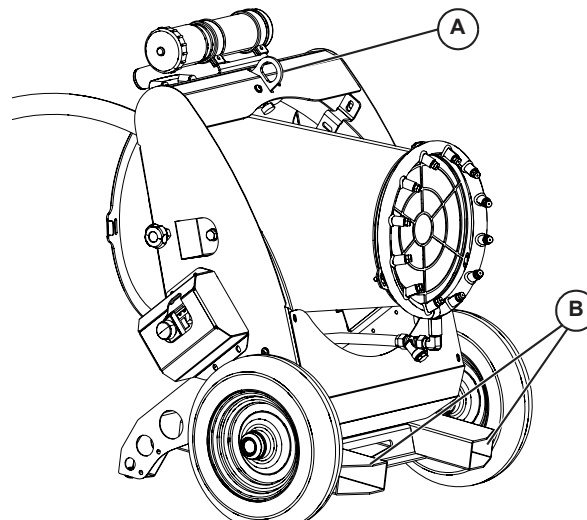

Figure 3-6. Lifting Points
2. See Figure 3-6. Always remain aware of people and objects around the work site when moving or lifting the unit.
- When lifting the unit, attach any slings, chains, or hooks directly to the central lift point (A).
- Use forklift pockets (B) with care. Avoid approaching the unit at an angle, as this can permanently damage the forklift pockets, tires, or cabinet. Verify any obstructions are clear of the forklift tines before lifting.